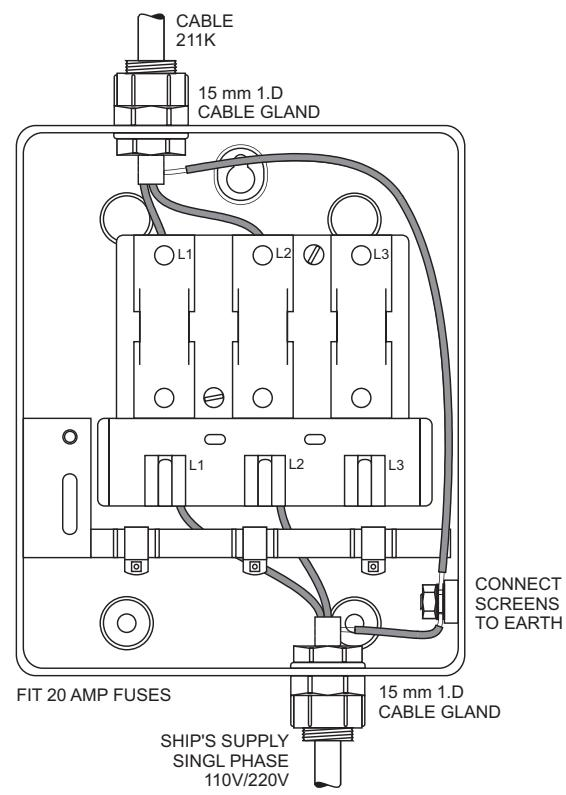

Figure 6d - Mains Isolator: Installation Dimensions
36 Refer to Figure 6d and secure the Mains Isolator in the required position (no fittings are supplied).
- (1) Ensure that the associated display is turned off.
- (2) Remove fuses from mains isolators.
- (3) On Turning Mechanism set ON/OFF switch to OFF.
- 47 Fit cable through gland in accordance with the diagram shown on Figure 6d.